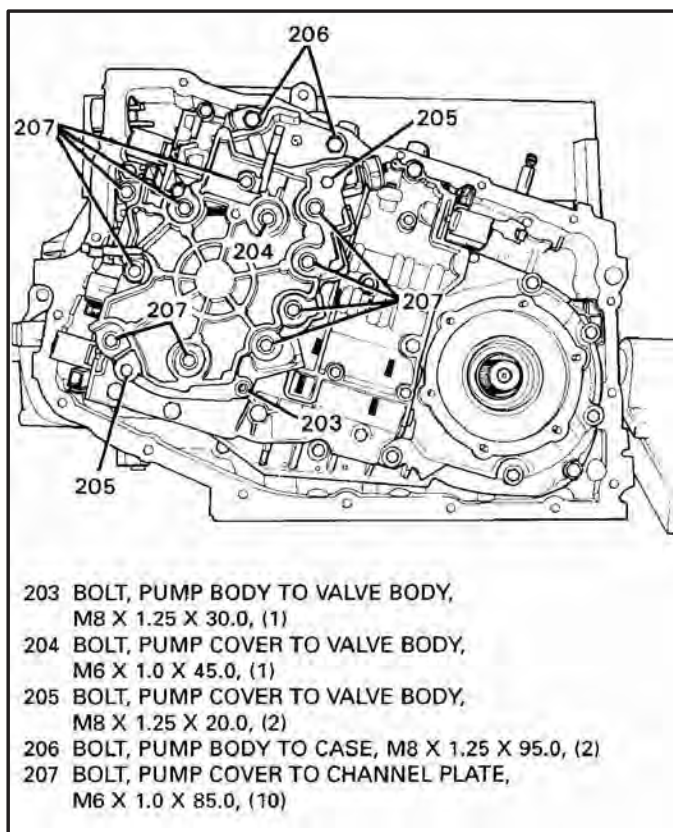

Figure 48
16. Remove the oil pump retaining bolts that are indicated in Figure 48.